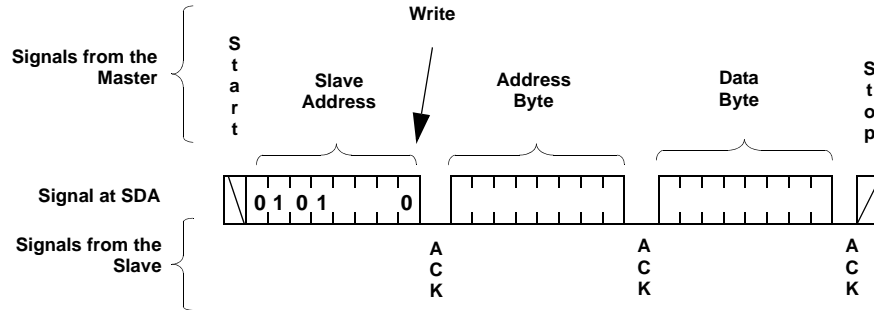
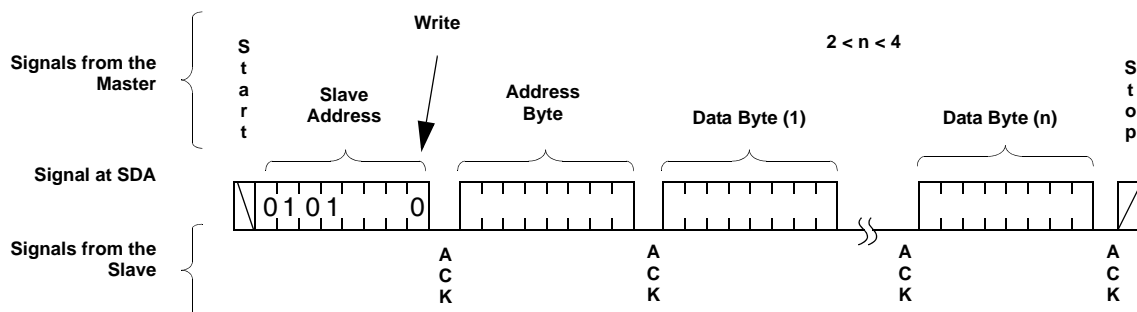

FIGURE 7. BYTE WRITE SEQUENCE
FIGURE 9. PAGE WRITE OPERATION
2. **Access the desired DR or WCR using a new write or read command** (see Figure 7 for write and Figure 9 for read.) Specify the desired column (DCP number) by sending the DCP address as part of this read or write command.
For any Byte Write operation, the X9455 requires the Slave Address byte, an Address Byte, and a Data Byte (See Figure 7). After each of them, the X9455 responds with an ACK. The master then terminates the transfer by generating a STOP condition. At this time, if the write operation is to a volatile register (WCR, or SR), the X9455 is ready for the next read or write operation. If the write operation is to a nonvolatile register (DR), and the  $\overline{WP}$  pin is high, the X9455 begins the internal write cycle to the nonvolatile memory. During the internal nonvolatile write cycle, the X9455 does not respond to any requests from the master. The SDA output is at high impedance.
As stated previously, the memory is organized as a single Status Register (SR), and four pages of four registers each. Each page contains one Data Register for each wiper. Normally a page write operation will be used to efficiently update all four Data Registers and WCR in a single Write command. Note the special sequence for writing to a page: First wiper 0A, then 1B, then 1A, then 0B as shown in Figure 9.
transmit up to 4 bytes (See Figure 9). After the receipt of each byte, the X9455 responds with an ACK, and the internal WCR address is incremented by one. The page address remains constant. When the address reaches the end of the page, it "rolls over" and goes back to the first byte of the same page.